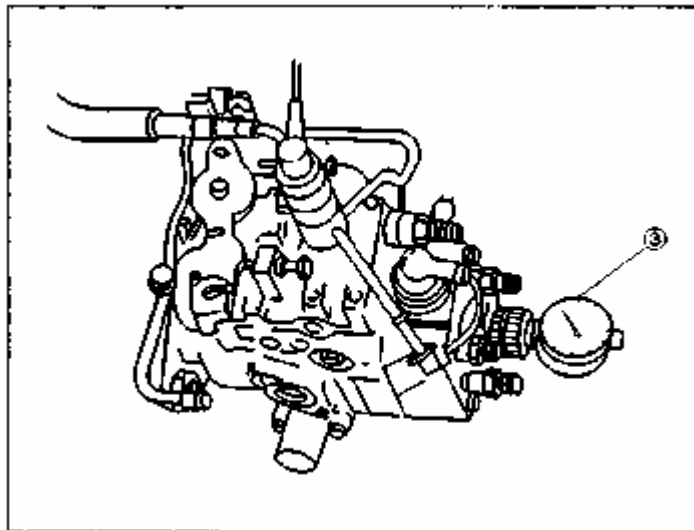

Figure 3-46 Install a dial indicator
(1) Unscrew and remove tapered screw plunger from fuel injection pump.
(2) Install a dial indicator to measure fuel supply advance angle③ (see figure 3-46). Indicator probe should be push down inwardly by approximate 1mm.